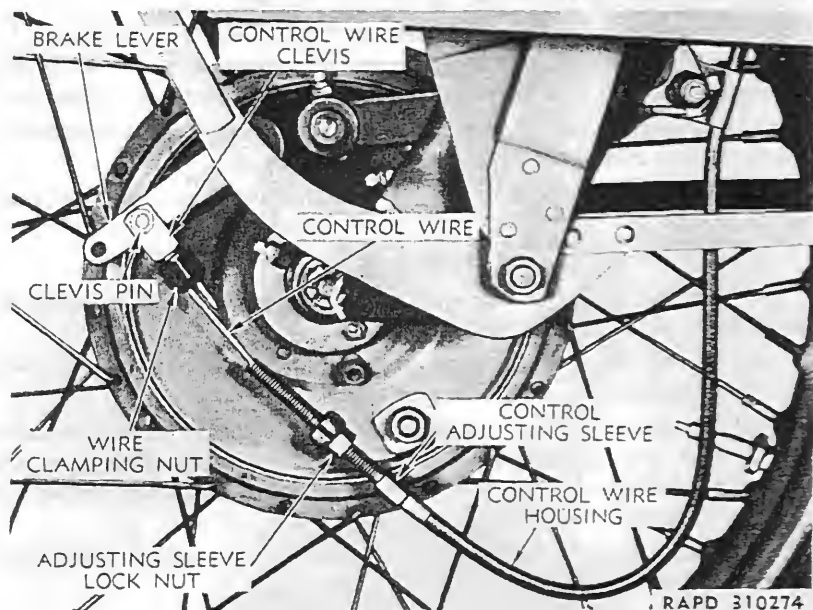

Figure 62—Front Brake Control and Adjusting Members
(5) Install rear wheel (par. 127). *NOTE: If rear chain is in need of adjustment, it should be done at this time.*
(6) To equalize brake shoes, loosen nut on brake shoe adjustable pivot stud (on outside of brake side plate), and while applying pressure on brake foot pedal (to "center" the brake shoes within the drum), retighten the pivot stud nut.
(7) After new or relined shoes have been installed, check foot pedal for free play (step b above).
97. FRONT WHEEL BRAKE (fig. 62).